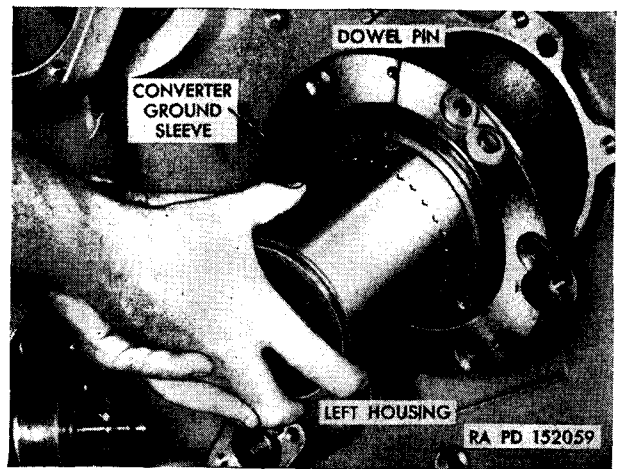

Figure 320. Installing converter ground sleeve.
- (2) Install the fan-drive cover and gasket and secure with six $\frac{3}{8}$ -inch bolts and washers. Check to see that one "O" ring gasket is installed against the flange on the converter ground sleeve and that another is properly installed in the housing-ground-sleeve bore. Position the ground sleeve at the housing bore so that the dowel pin in the ground sleeve is toward the top of the transmission housing (fig. 320).